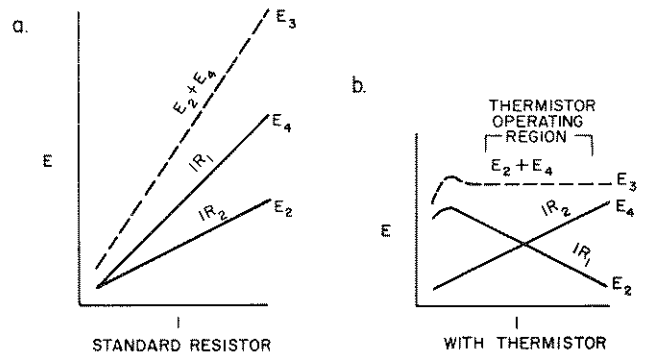

Figure 4-5. Graphical representation of the current (I) through R_1 : a. using a standard resistor; b. using a thermistor.
When an ordinary resistor is used for R_1 , the voltage drops across R_1 and R_2 change in direct proportion to the current through them, which in turn, changes in direct proportion to the gain (current-delivering capability) of the amplifier. In Figure 4-5, the result of increasing current (I), is shown. Since E_3 is the sum of E_2 and E_4 , E_3 rises linearly as the gain of the amplifier rises.